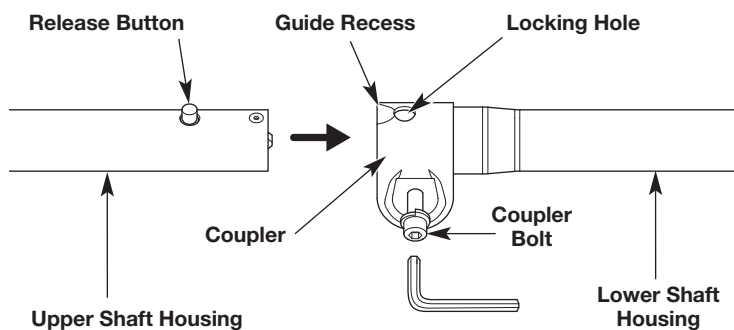

Fig. 4
2. Use a 3/16 in. Allen wrench to loosen the coupler bolt (Fig. 4).
3. While firmly holding the upper shaft, push it straight into the coupler until the release button snaps firmly into the locking hole (Fig. 4).
**NOTE:** Aligning the release button with the guide recess will help installation (Fig. 4).
4. Tighten the coupler bolt until the upper and lower shafts are firmly connected (Fig. 4).
**CAUTION:** Before operating the unit, make sure the release button is fully snapped into the locking hole (Fig. 4) and the coupler bolt is securely tightened.